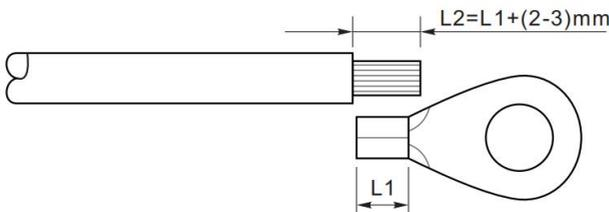

Figure 5-2 Grounding connection instruction (1)
Step1: Remove the insulation layer with an appropriate length using a wire stripper shown as figure 5-2) .